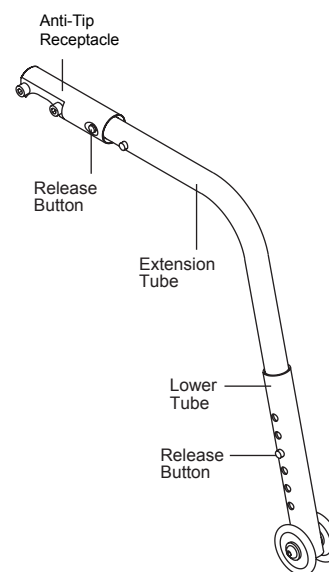

Figure 124
1. To adjust the height of the rear anti-tip, press the two Release Buttons on the telescoping lower tube, then adjust the height of the lower tube so the wheel is within 1-1/2" to 2" off the ground. See Figure 124.